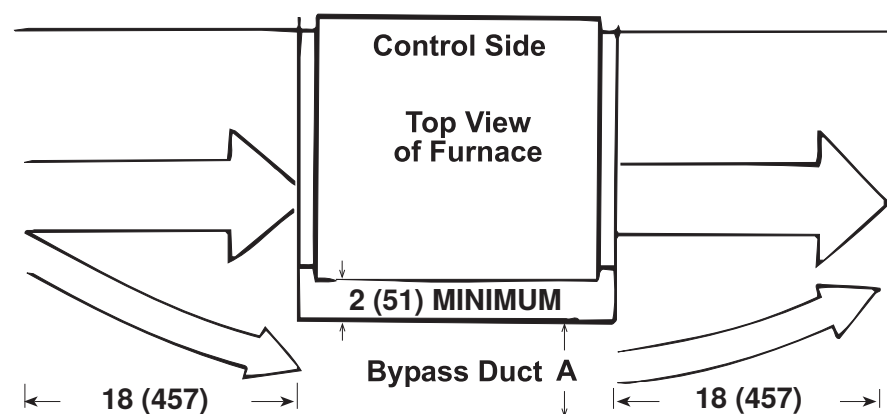

Figure 10. Bypass Duct Dimensions
When the CFM of air throughput is greater than that which is desirable or permissible for the unit, a bypass duct (see Figure 10) may be constructed. Determine the correct size of the bypass duct as follows:
3. Refer to Table 8 to determine duct size based on closest bypass CFM value in column topped by closest pressure drop value (e.g., pressure drop = **0.36** (go to 0.35 column) and bypass CFM = **780** (830 is closest value in that column), therefore, bypass duct A dimension (see Figure 10) = **3 inches (76 mm)**).
*See Figure 10.